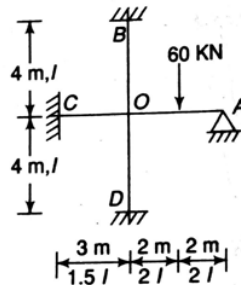

Figure 10
8. Analyse the frame shown in Figure 10 using stiffness method.